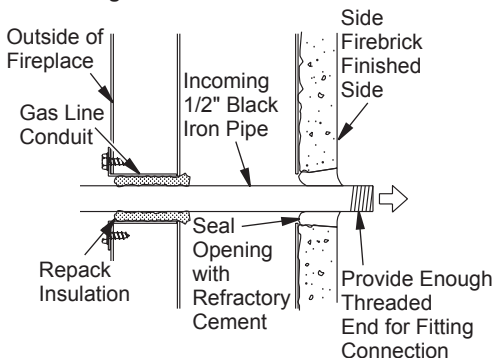

Figure 16 - Gas Line Installation
3. Run a 1/2" black iron gas line into fireplace through the rear at gas line conduit sleeve (if using a raised platform, add height). Provide sufficient gas line into fireplace chamber for fitting connection (see Figure 16).